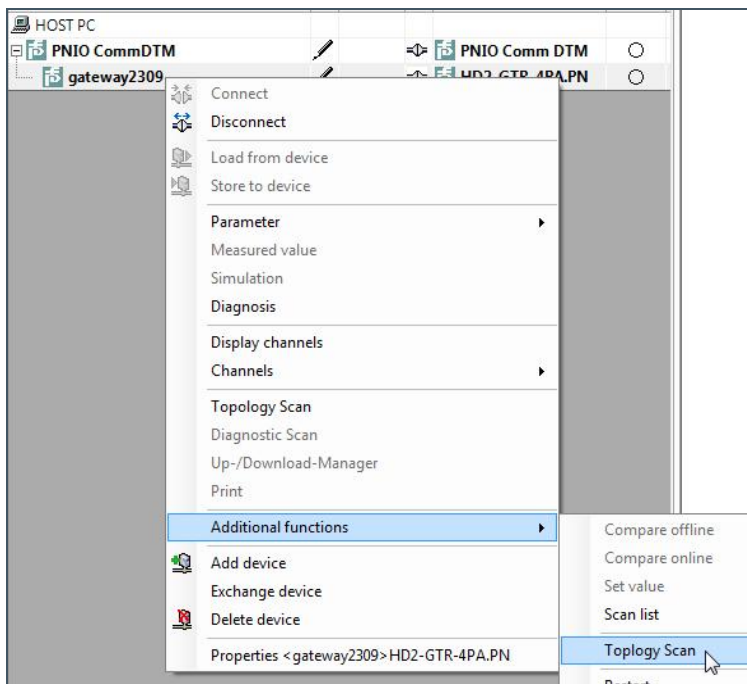

Figure 54: Search for Topology Scan for PROFIBUS PA devices
- 6) **Right-click the PROFINET gateway, which has been assigned with the name gateway2309 in the example so far, then select Additional functions > Topology Scan** (see: Figure 54: Search for Topology Scan for PROFIBUS PA devices).